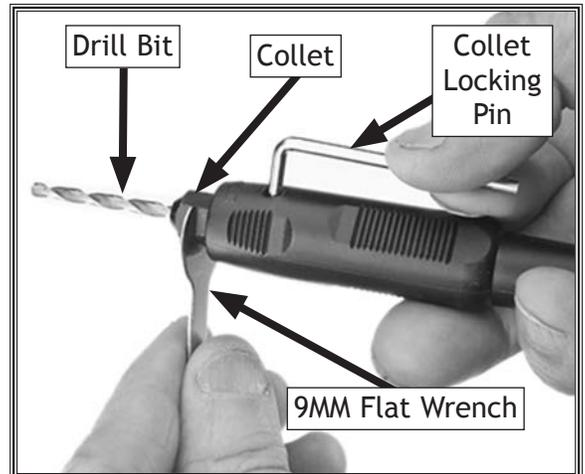

Figure 14. Securing drill bit in flex-shaft collet.
9. Insert collet locking pin into hole on collet and tighten bit with 9mm flat wrench by turning clockwise, as shown in Figure 14.